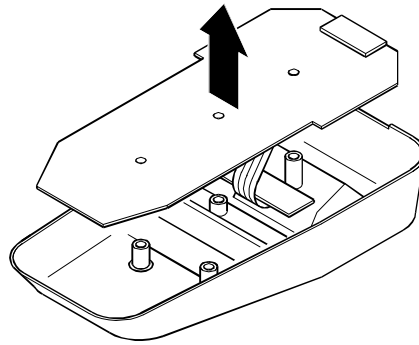

Figure 14: Charger PCB removal (1)
4. (Figure 14) Raise and tilt the charger PCB to expose the connector cable.